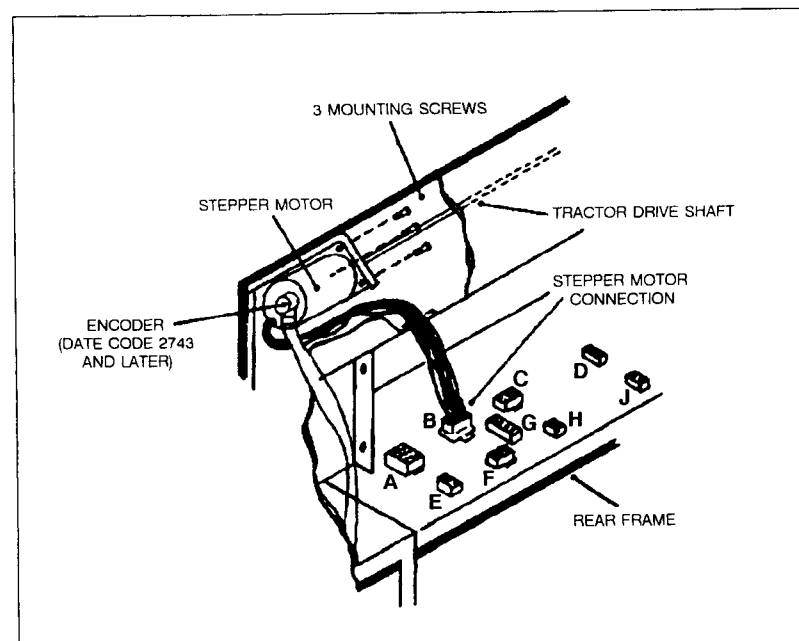

Figure 6-22. Paper Drive (Stepper) Motor
- a. Switch the printer offline and the ON/OFF switch to the OFF (0) position.
- c. Unplug the six pin motor lead wire connector at the rear of the printer (connector "B" on Figure 6-22).